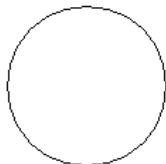

Figure 34-3: The circle drawn using the `circle3` AutoLISP routine.
9. At the Please click a point: prompt, pick any point on-screen. You see a 3-unit radius circle with its center at the point that you picked, as shown in Figure 34-3.